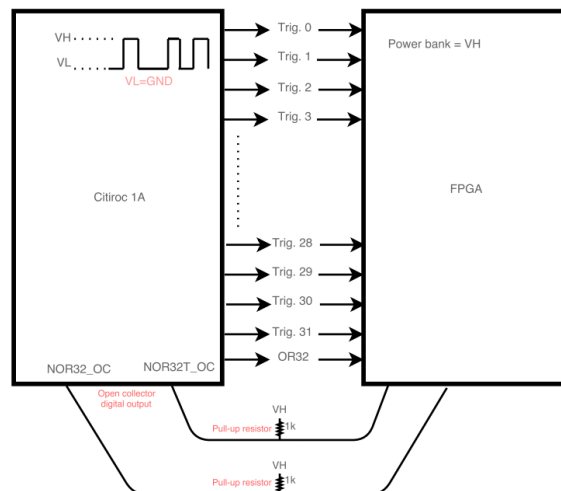

Figure 24 – Trigger output connection
**VH can be set to 1.8V – 2.5V or 3.3V** depending on user needs. The higher the voltage swing, the faster the signal. However, the EMC is better for low VH. That choice will be a design trade-off depending on the application and the timing performance required. The trigger signal receiving device (FPGA, microcontroller, etc.) must have a consistent voltage swing to operate correctly as shown in Figure 24.